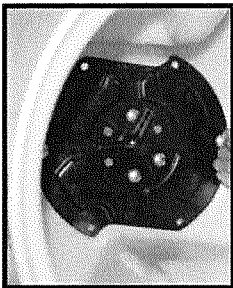

Fig.11: Slide bolts through drum attachment assembly and mixing drum by turning the drum onto its side.
4. Place bolts through the holes to attach assembly to drum as shown (Fig. 11)